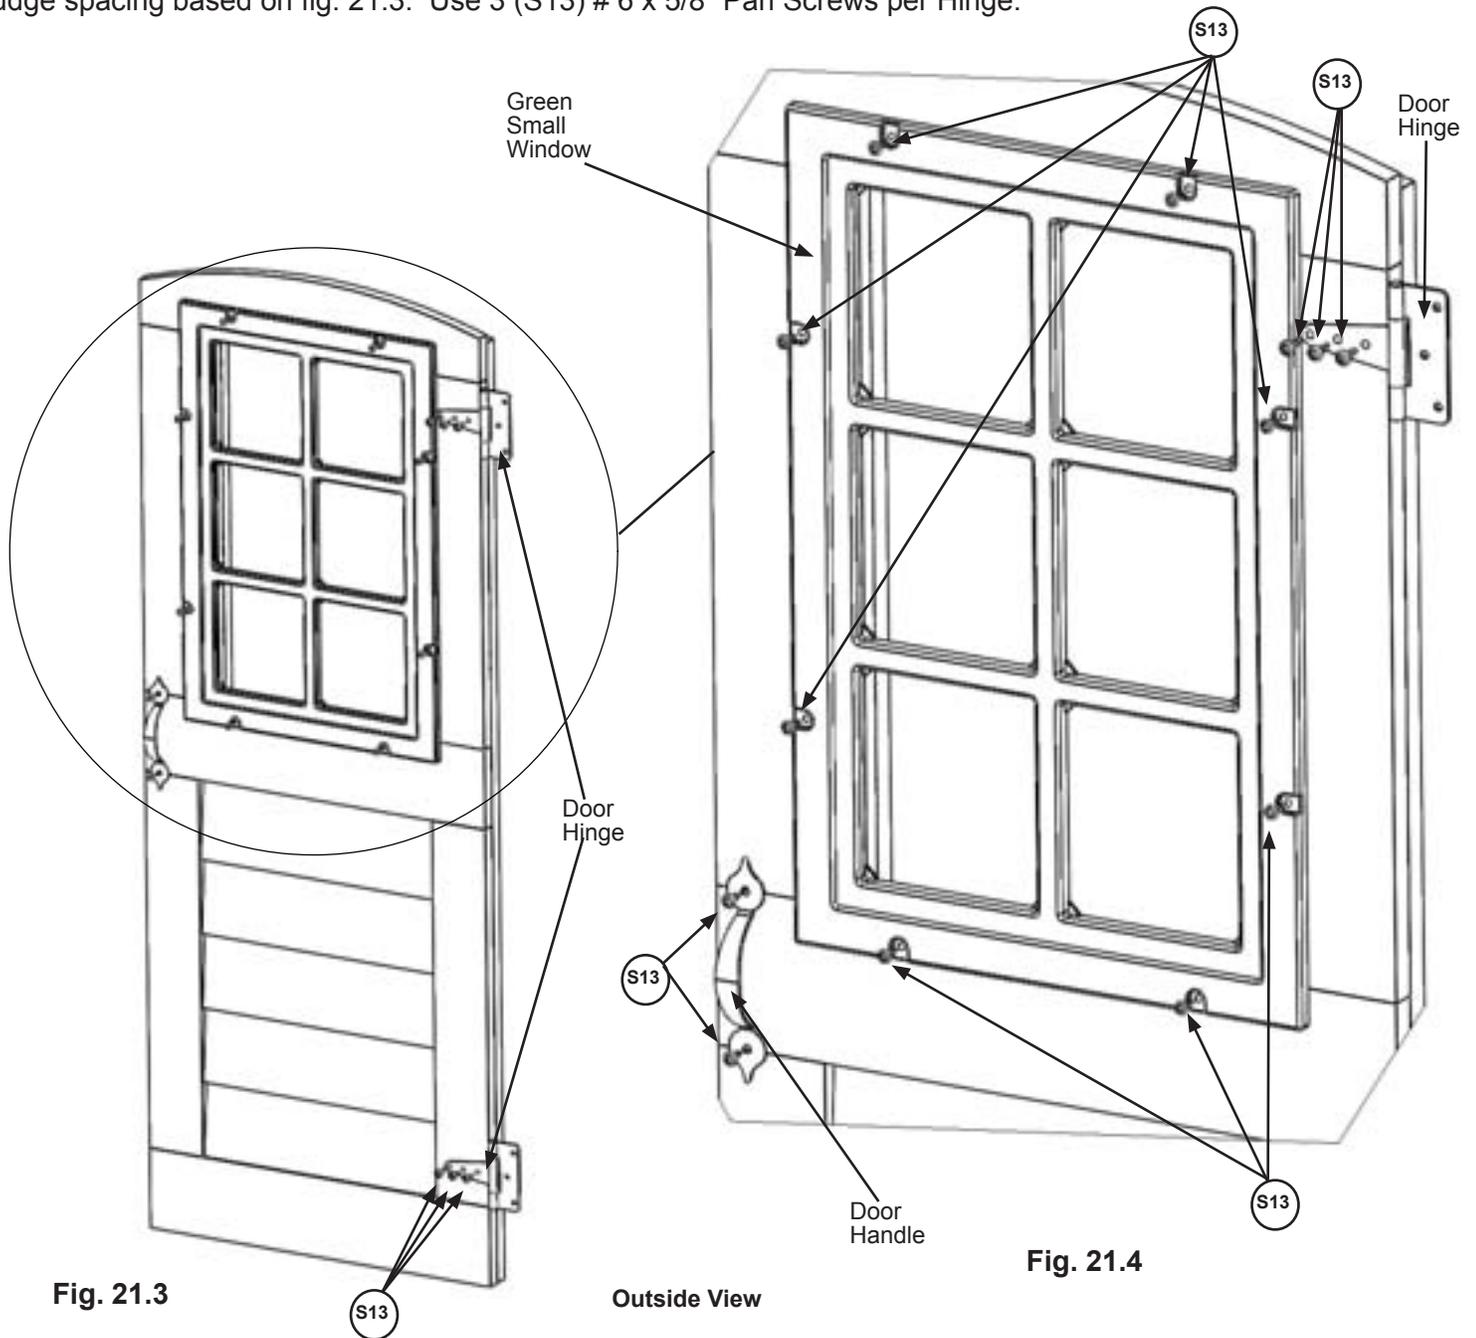

Fig. 21.3
C: On the outside of the (210) Door Panel Green attach the second Door Handle at approximately the same place as the one on the inside. Use 2 (S13) #6 x 5/8" Pan Screws. (fig. 21.3 and 21.4)
E: Attach 2 Door Hinges on the outside of the (210) Door Panel Green on the opposite side from the Door Handle. Judge spacing based on fig. 21.3. Use 3 (S13) #6 x 5/8" Pan Screws per Hinge.